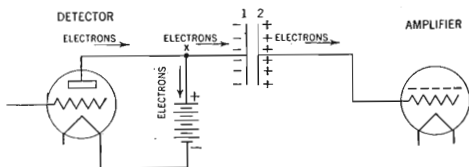

Fig. 89. Diagram showing how a fixed capacitor is used to couple the amplifier tube to the detector.
84. How is a fixed capacitor used for coupling? There is another method used to couple one tube with another. A fixed capacitor is inserted between the plate of the detector tube and the grid of the amplifier tube (Figure 89). Now the stream of